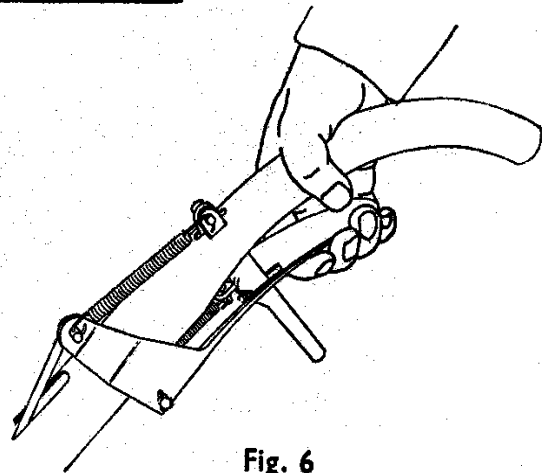

Fig. 6
**Ease the machine forward** at the same time lifting the clutch hand lever up into the notch in the trigger. See Fig. 6.